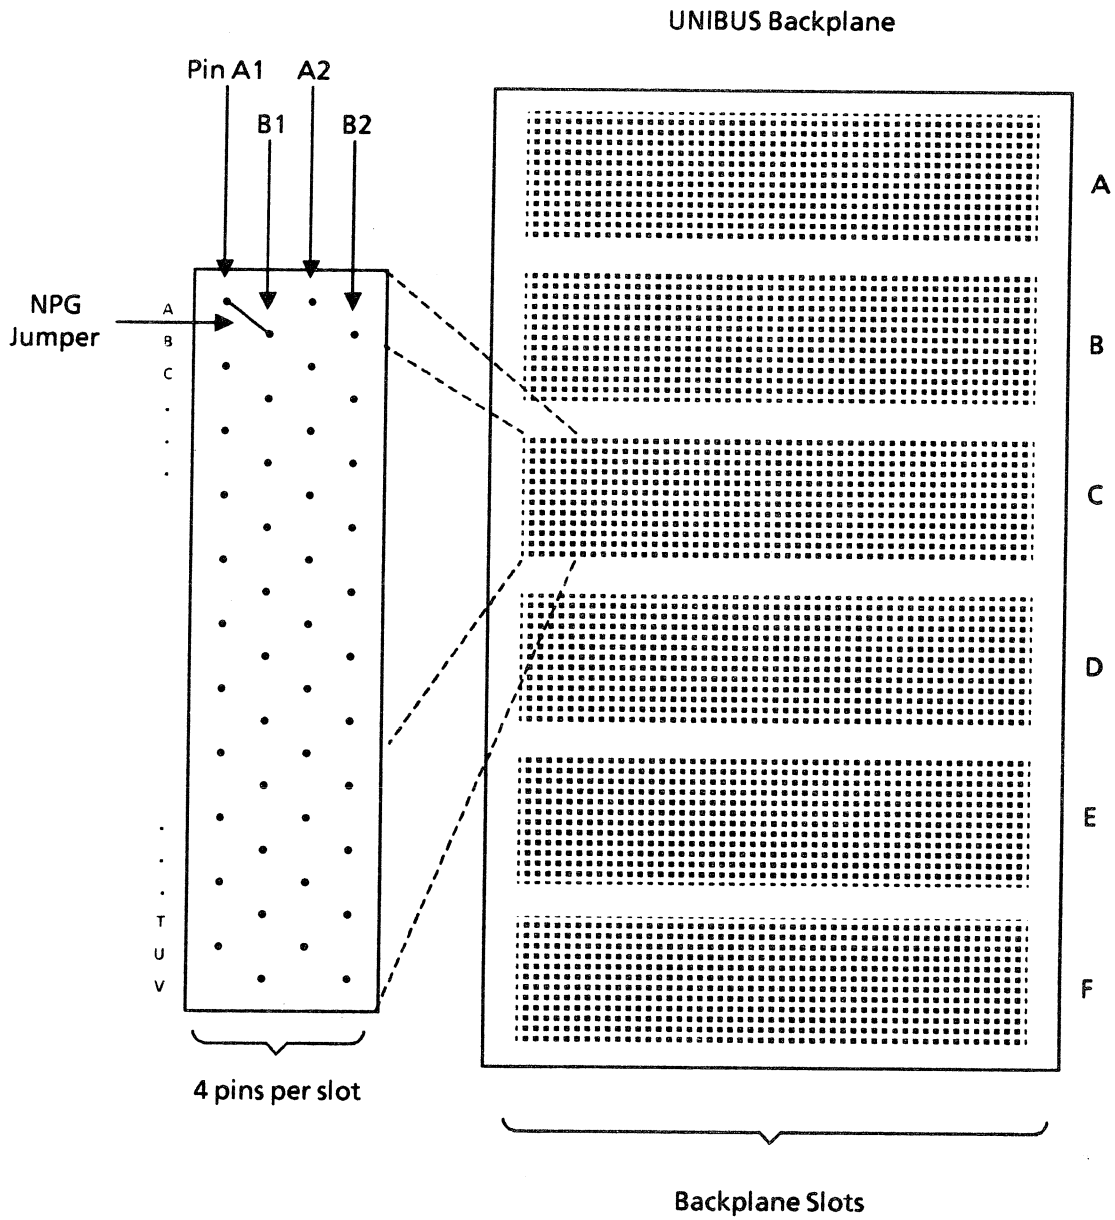

Figure C-13 NPG Jumper
- b. Figure C-13 is a diagram of the UNIBUS backplane, showing the location of the NPG jumper for the first UNIBUS slot. The pins are arranged in sections designated A through F. To identify section A, look at the front of the UNIBUS and find the UNIBUS terminator card, which is installed in sections A and B on the UNIBUS.
- d. As shown in the enlargement in Figure C-13, each slot is four pins wide on the backplane, counted by tracing a zig-zag pattern left-to-right from pin A1, to pin B1, to pin A2, to pin B2. The NPG jumper for each slot connects pins A1 and B1 in section C.